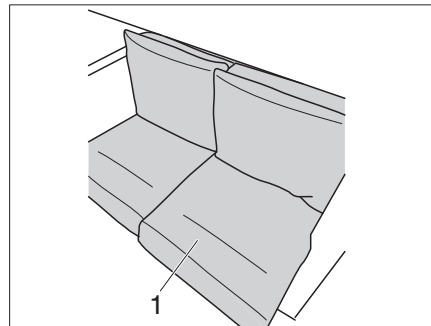

Fig. 222 Put cushion on top
The back of the seat cushion (Fig. 222,1) is reinforced by plastic.
- Put the cushion with reinforcement (Fig. 222,1) on top on the right-hand side.